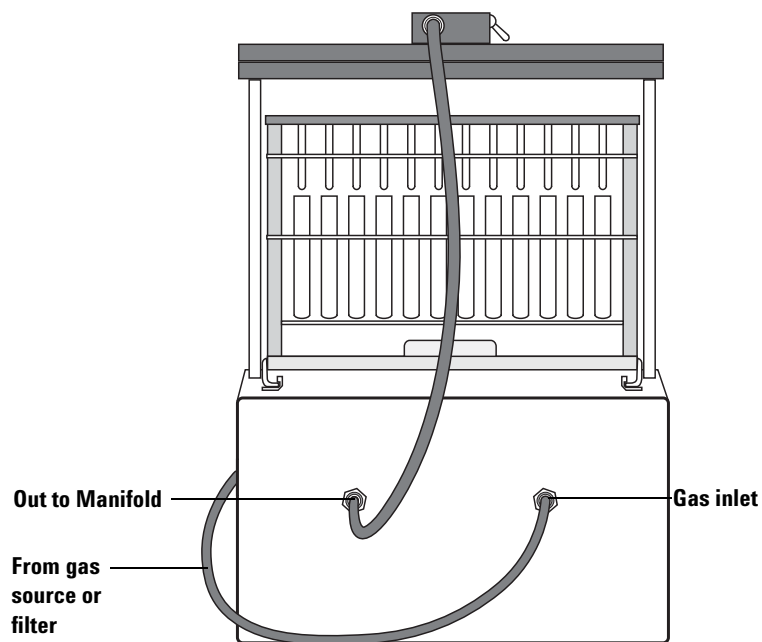

Figure 7 Agilent positive pressure manifold 48 processor gas connections
- 5 Connect the filter to the processor gas inlet, so that gas flows through the filter prior to entering the processor. Push the tubing into the push-to-connect fitting until it is fully seated in the fitting. See Figure 7 on page 24 and Figure 8 on page 24 for diagrams showing proper tubing installation. If you are not using a filter, use the tubing provided to connect your gas source directly to your processor's gas inlet.
- 3 Push the new tubing from an installation kit (p/n 5191-4114) into the appropriate push-to-connect fittings (see Figure 7 on page 24 and Figure 8 on page 24). For more information on the installation kit, see “Parts and Accessories” on page 21.